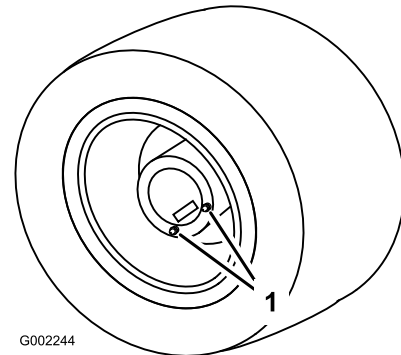

Figure 76
1. Move the machine to a level surface with the rear wheels positioned for draining (Figure 76).
3. Place a drain pan under the drain plugs and remove them from the wheel (Figure 76).